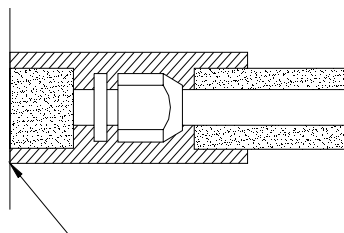
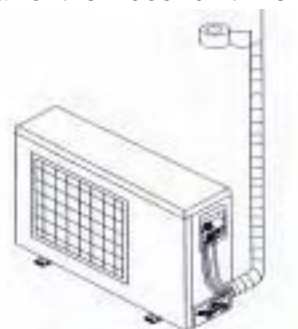

Fig.41
Fig.42
2. The joint connecting to the indoor unit must be wrapped by thermal insulation material. There shall be no gap between the connecting pipe joint and the wall of the indoor unit. Refer to Figure 41.
- (1) Use adhesive tape to bundle the connecting pipe and the cables together. To prevent condensate from overflowing out from the drainage pipe, separate the drainage pipe from the connecting pipe and the cables.
- (2) Use thermal insulation tape to wrap the pipes from the bottom of the outdoor unit until the upper end of the pipe where the pipe enters the wall. When wrapping thermal insulation tape, the later circle of tape must cover half of the front circle of tape (Refer to Figure 42).
- (3) Wrapped pipe must be fixed to wall using pipe clamps.
3. If the communication line between the wire controller (85 × 85 × 16) and the indoor unit is surface-mounted, use 1# metallic pipe and make matching recess in the wall (refer to Figure 41); If concealed installation is adopted, 1# metallic pipe can be used (Refer to Figure 42).